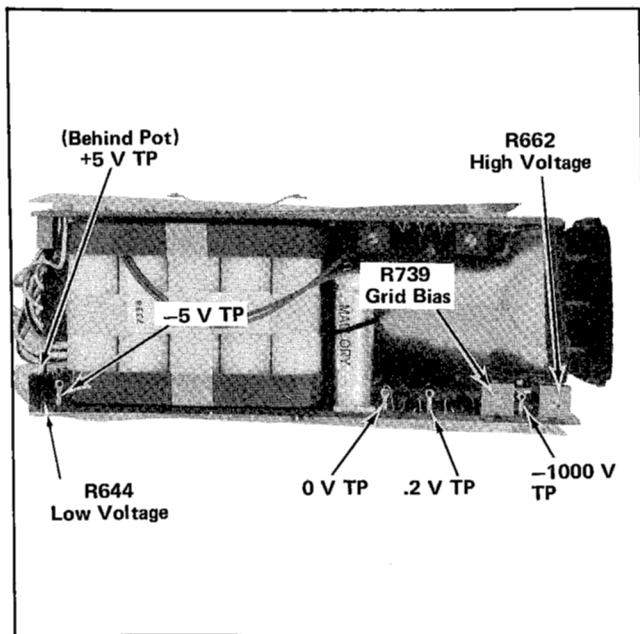

Fig. 5-1. Location of the Low Voltage, High Voltage adjustments and test points.
- d. Adjust R644 Low Voltage adjustment for exactly 10 volts. See Fig. 5-1.
c. Adjust the High Voltage adjustment R662 for exactly  $-1000$  volts. See Fig. 5-1.
- d. Adjust Grid Bias Adjustment R739 for exactly 0.2 volt. See Fig. 5-1.